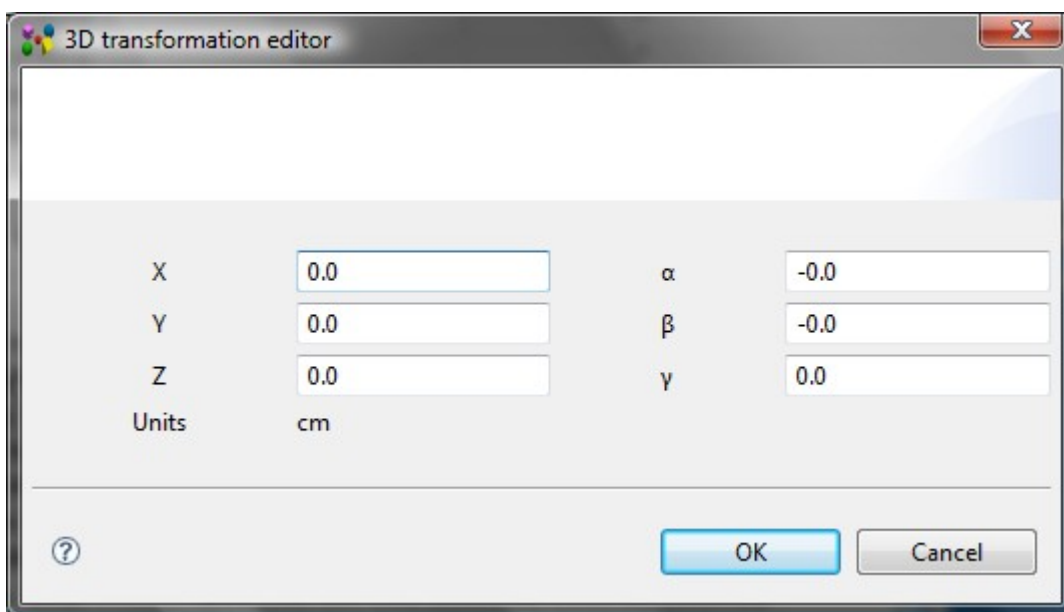

Figure 2. 3D transformation editor page
- The **3D transformation editor** page appears on the screen (see Figure 2):